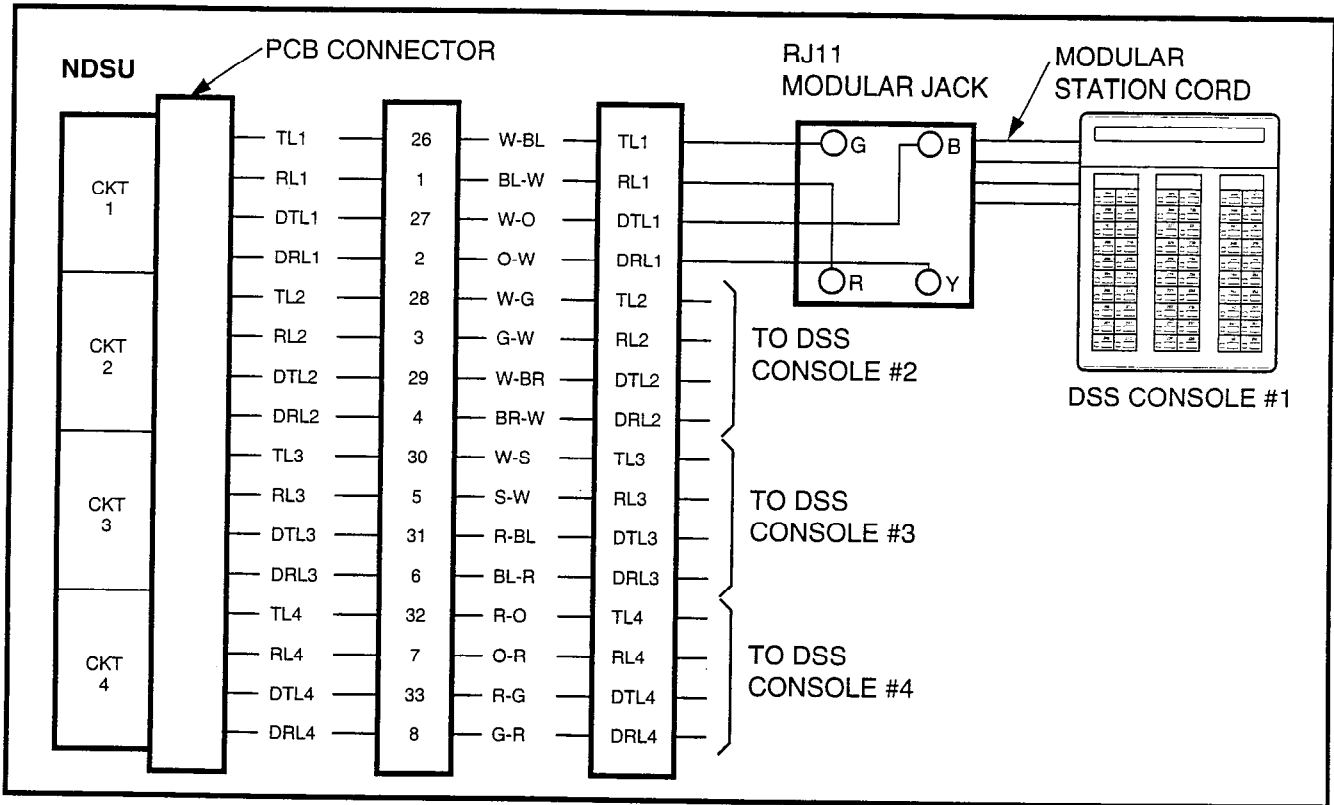

FIGURE 4-35—DSS CONSOLE CONNECTION FOR PERCEPTION_e "C" SLOT
5.64 DSS console(s) connection details are shown in Figures 4-35 and 4-36, PERCEPTION_e and _{ex}, respectively.